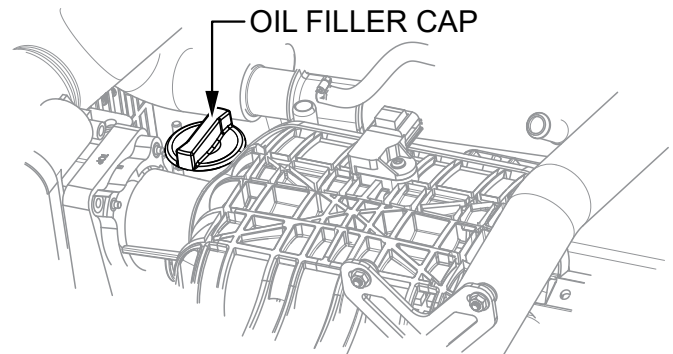

Figure 58. Oil Filler Cap
5. If the oil is below the lower mark on the dipstick, remove the oil filler cap (Figure 58) and add engine oil up to the upper mark on the dipstick. Refer to Table 6 for recommended oil viscosity.